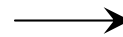

Fig. 7: Use of clamp during DC current measurement (HT4016 only).
3. Open the clamp and put the tested conductor in the center of the clamp jaw (ref. paragraph 4.1.2.) taking care to comply with the current flow shown in the label placed inside the Inductive clamp jaw and indicates in Fig. 7.